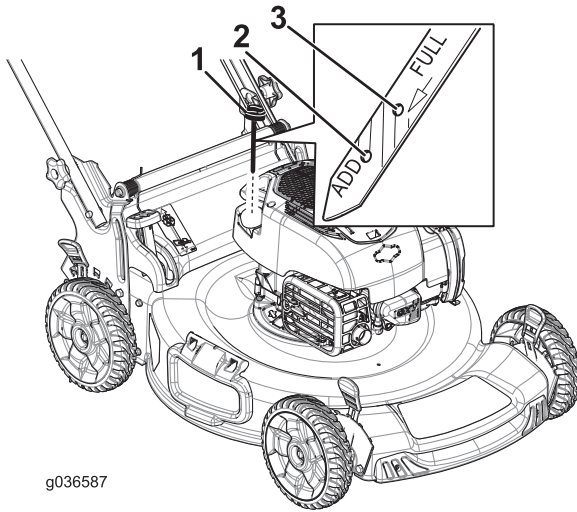

Figure 8
1. Remove the dipstick (Figure 8).
2. Slowly pour oil into the oil-fill tube until the oil level reaches the Full line on the dipstick (Figure 8). **Do not overfill.**